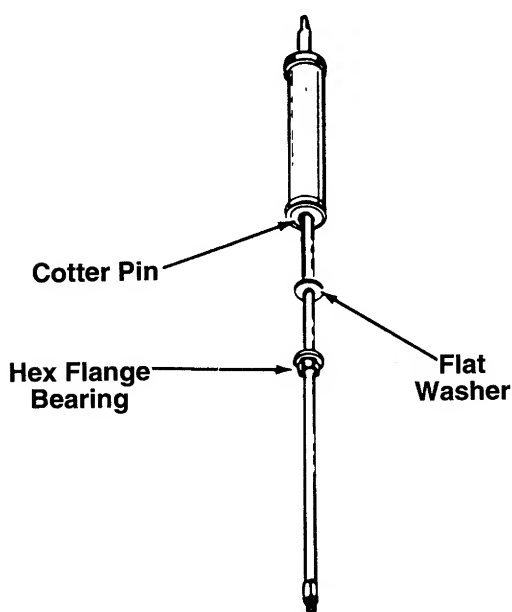

FIGURE 4.—Models 510, 520, 530 and 550
4. Hold the **steering shaft** upright, so that the **cotter pin** is closer to the top of the shaft. Slide the **steering tube spacer** and **steering tube** down over the **shaft** (above the cotter pin). See figure 4.